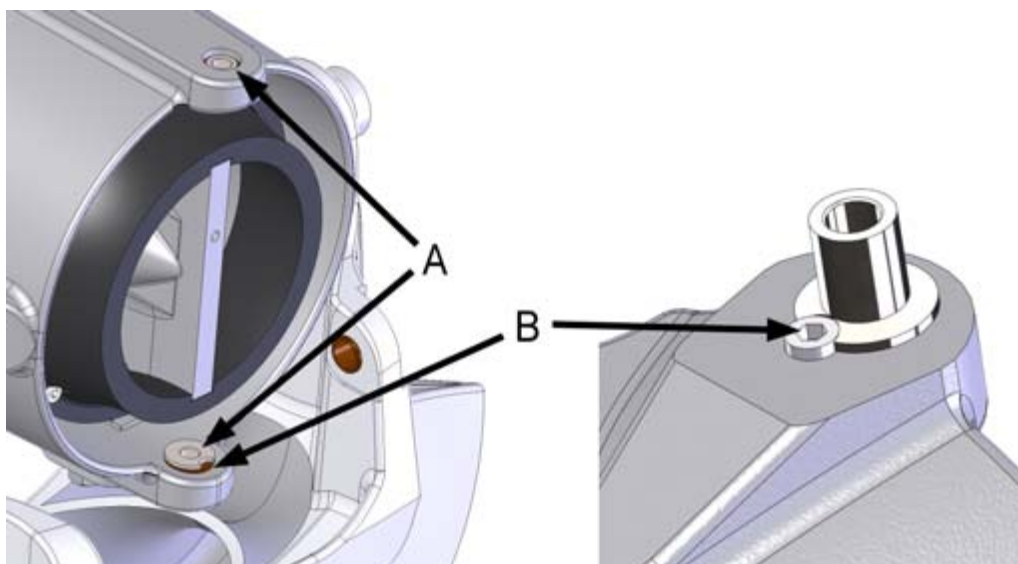

Figure 87. Nozzle joint pegs
1. Place the joint pegs in the stator holes (figure 87, point A) and install the steering nozzle.
The upper peg must be held in place while guiding the steering nozzle in place. The screws in the joints of the steering nozzle go in the joint peg holes (figure 87, point B)